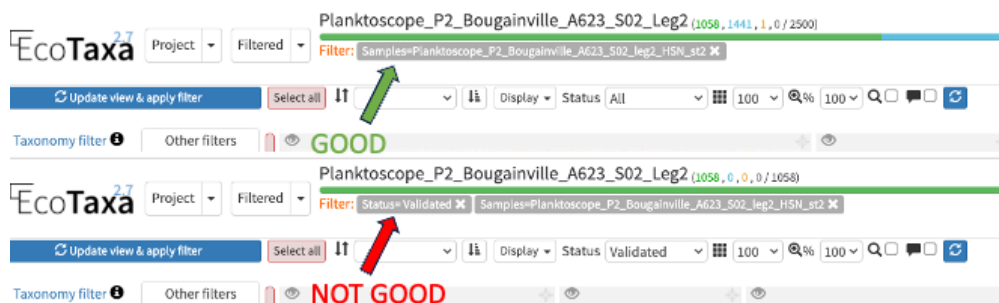

Figure 5: Checking filters prior to apply modification
2. Check that the filter **only select the samples** (no status; Fig.5)